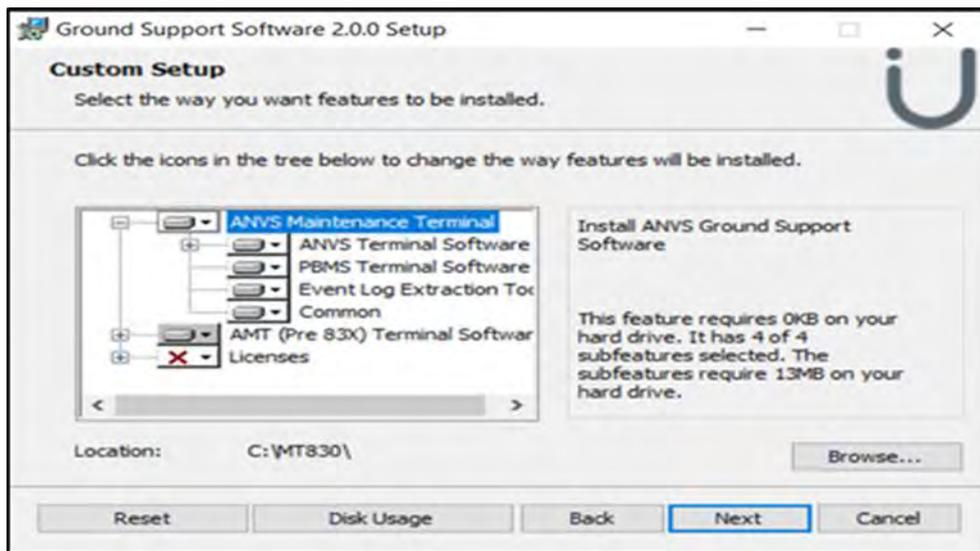

Figure 2-5 Custom Setup
- (i) The default PBMS settings in the Custom Setup menu are for PBMS to be installed. Select the Next button (**Ref Fig 2-5**) and follow the onscreen prompts to begin the installation.